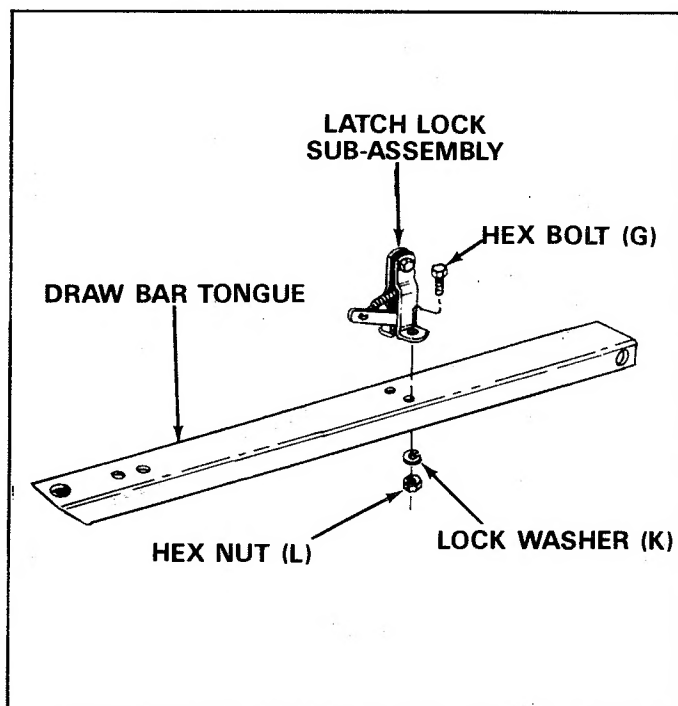

FIGURE 11
17. Assemble latch lock subassembly to drawbar tongue using 1/4" x 5/8" long hex bolt (G), lock washers (K) and hex nuts (L). See figure 11.